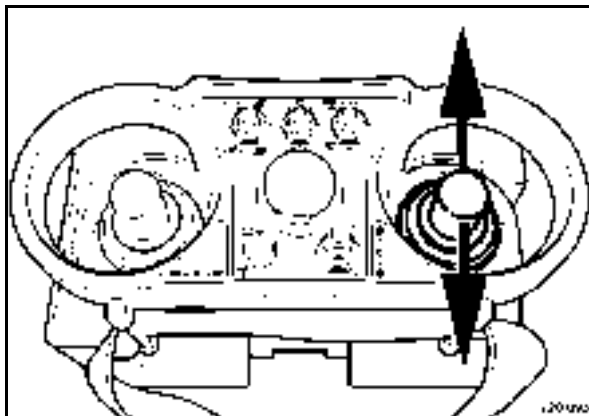

Fig. 50
- Move the travel lever (Fig. 50) forward or back.